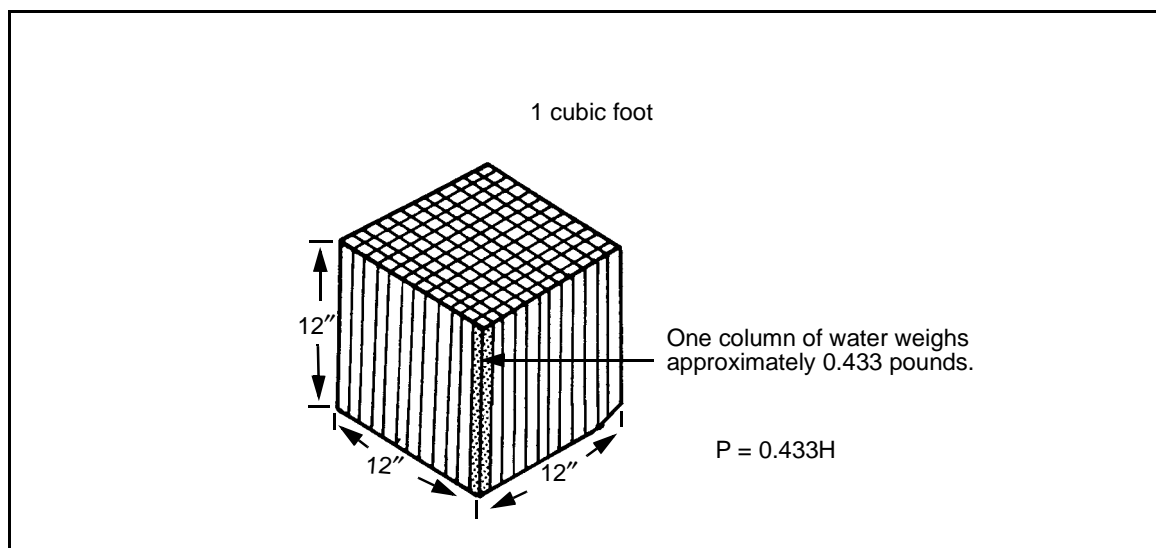

Figure E-1. Water Pressure
E-2. Pressure (P) is an expression, in psi (lb/in2), of the total gravitational force (lb) exerted at the base of an imaginary 1-inch square (in2) column of water—thus psi—of any column height or head (H) in feet (*Figure E-1*).